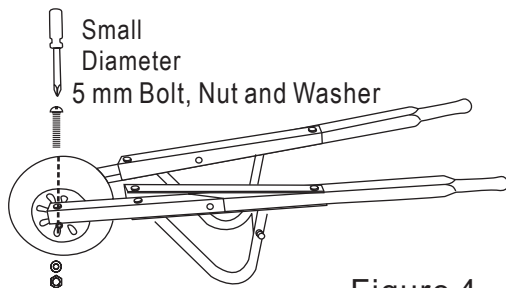

Figure 4
Step3: Attach the Front Wheel and Axle onto the Handles and Supporter, using small diameter TWO 5mm Bolt Nut & Washer Set. Secure by wrench. As shown at Figure 4.